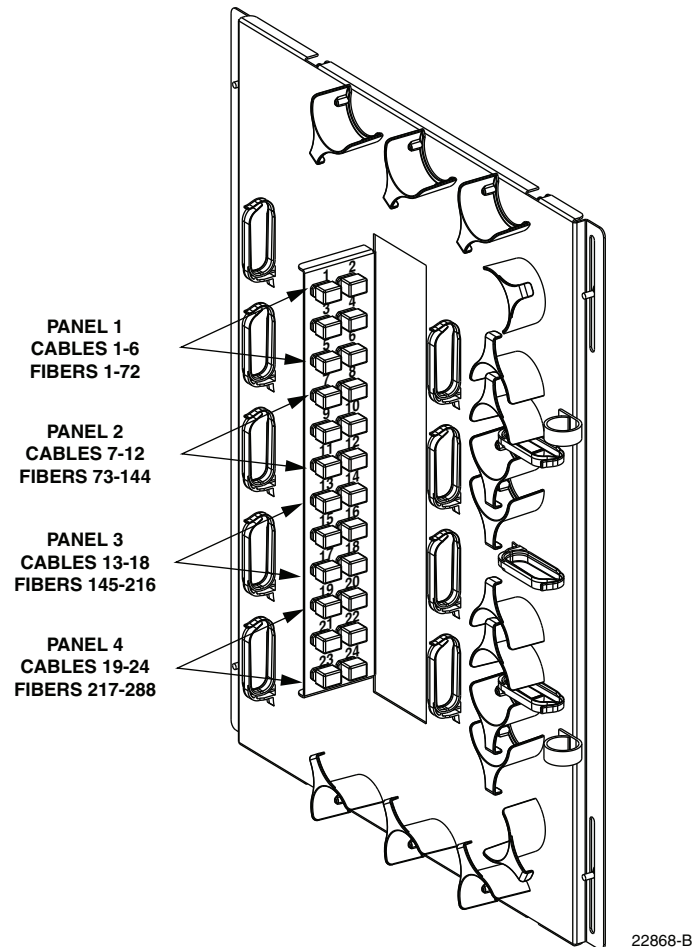

**Figure 58. Install Distribution Cables in Grommet**
9. Install each distribution cable into the compression fitting grommet as shown in Figure 58.